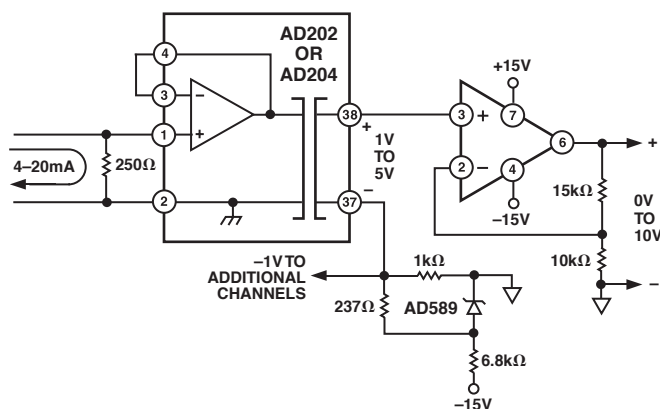

Figure 18. Process Current Input Isolator with Offset
**Process Current Input with Offset.** Figure 18 shows an isolator receiver that translates a 4–20 mA process current signal into a 0 V to 10 V output. A 1 V to 5 V signal appears at the isolator’s output, and a –1 V reference applied to output LO provides the necessary level shift (in multichannel applications, the reference can be shared by all channels). This technique is often useful for getting offset with a follower-type output buffer.